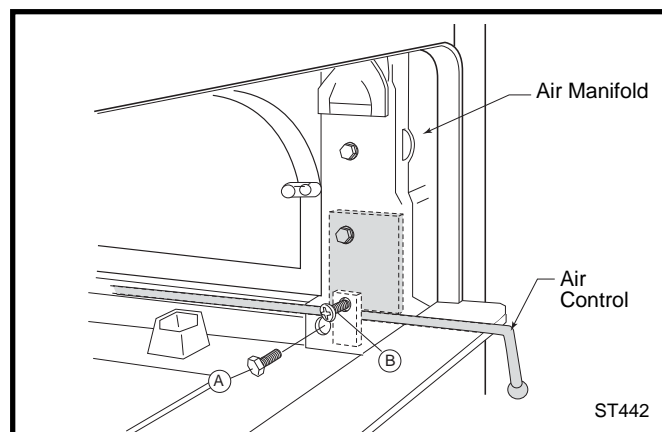

Fig. 29 Primary air control adjustment.
Over time, the air control may tighten or loosen. To adjust the tension on the control, let the stove cool to room temperature. Open the side-loading door and look in toward the inner side of the front panel of the stove. (Fig. 29) Locate the lower hex head bolt (A) on the primary air manifold, just inside the door. Remove the bolt with an open end or box end wrench to gain access to the adjustment screw (B) inside the manifold. Insert a Phillips screwdriver into that hole and turn the screw clockwise to increase tension, counterclockwise to decrease tension. Make adjustments in small increments and test the operation. Replace the hex head bolt when you are done.